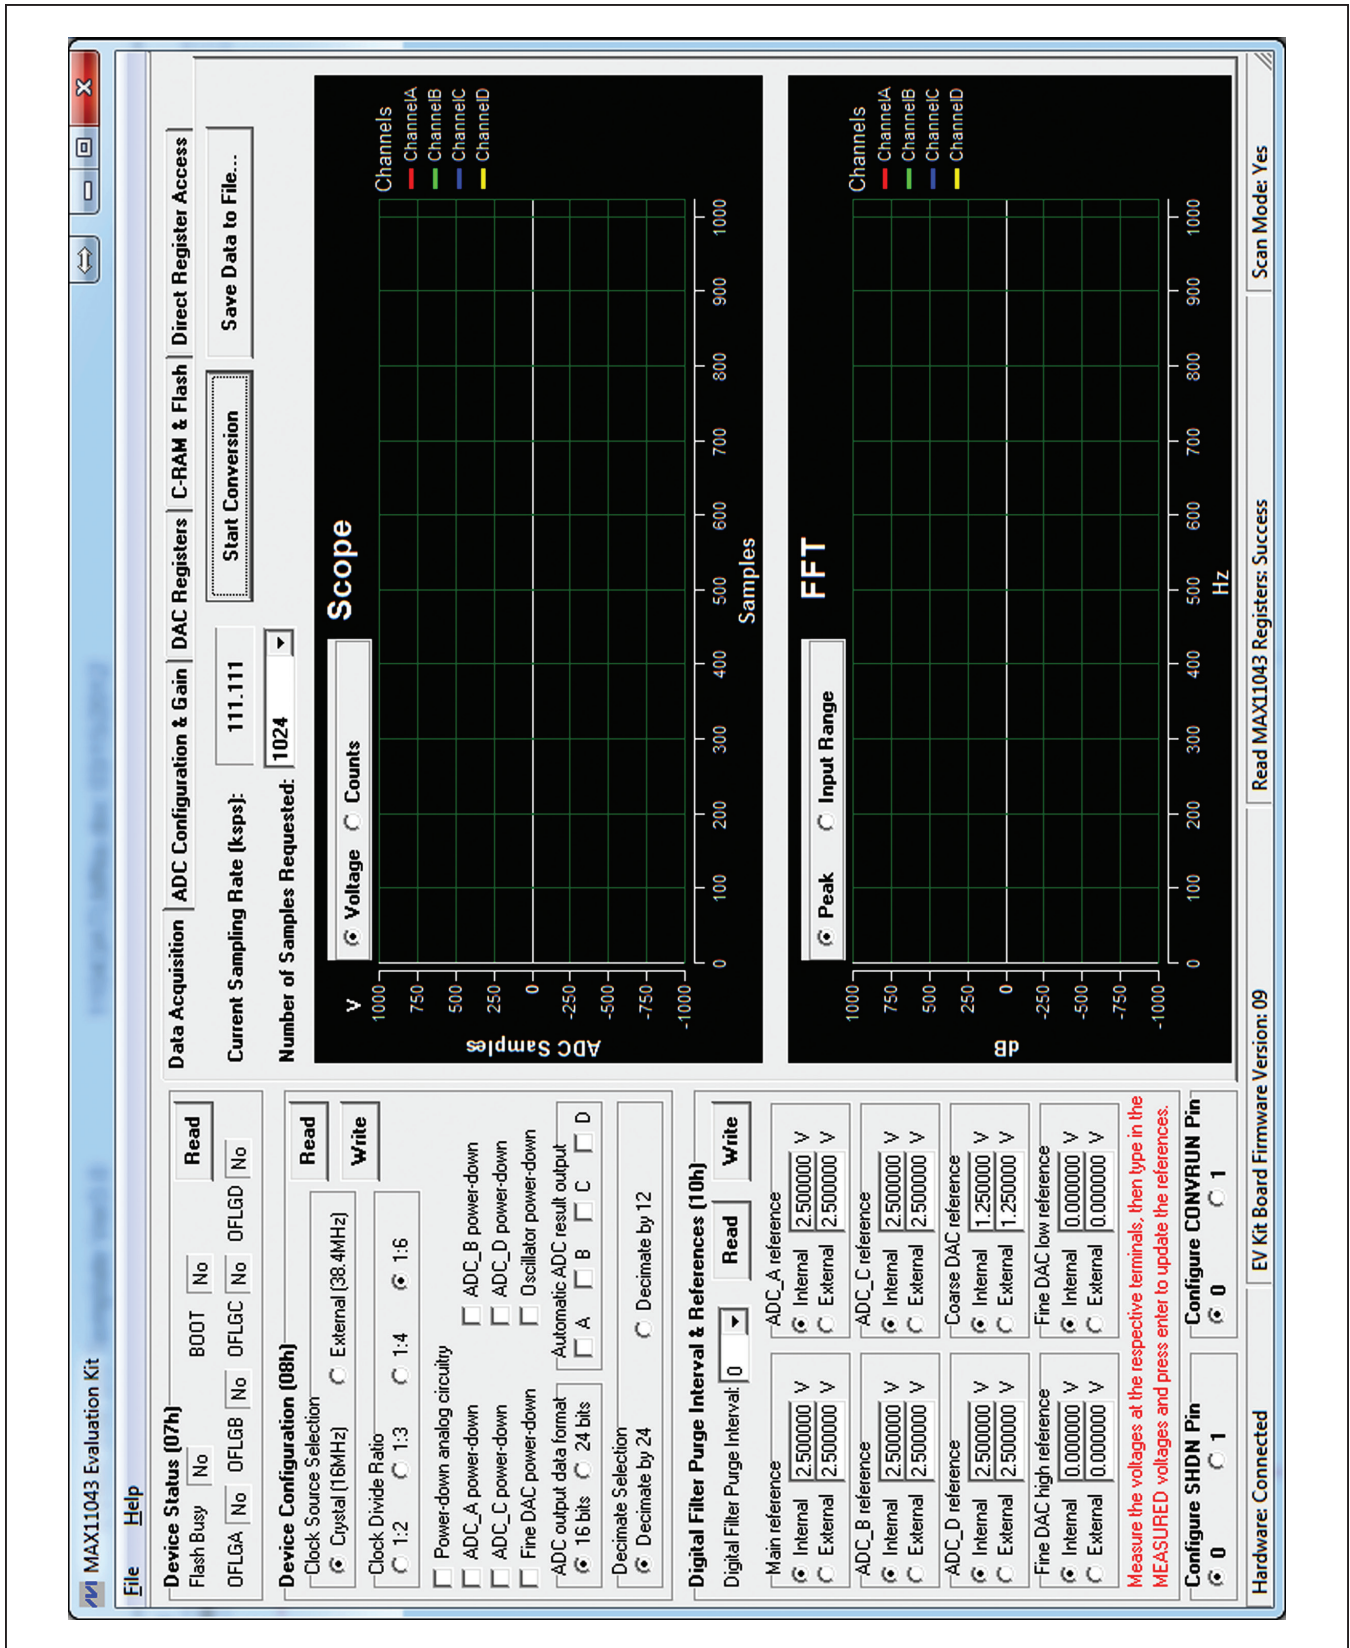

Figure 2. MAX11043 EV Kit Software (Main Window)
- 8) Start the EV kit software by opening its icon in the Windows **All Programs** menu. The EV kit software main window appears, as shown in Figure 2.
The main window of the evaluation software (Figure 2) displays the MAX11043 device status register, device configuration register, digital filter purge interval and reference register, and five tab sheets.